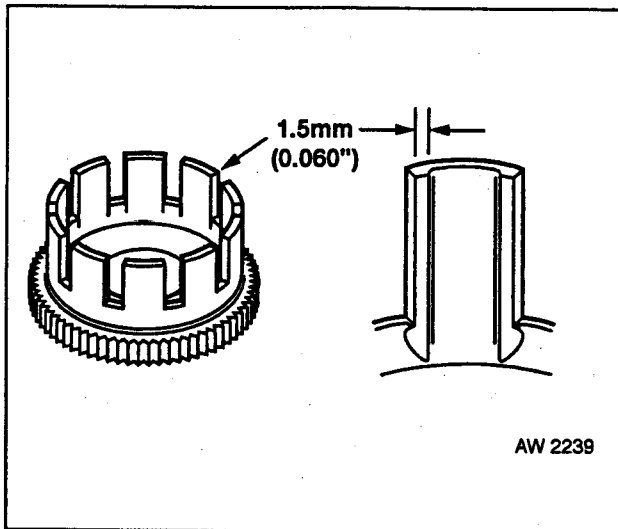

Fig 2.27 Clutch Drum Refurbishment
- a. With the clutch exposed the springs (13) and retaining plate (15) are released on unscrewing the six hexagon headed M5 screws (19) with their lockwashers.
- b. To remove the clutch shaft nut (12), lock the crankshaft at top dead centre, unbend the locking washer and lock the clutch using the tool (P/N 276 825) from the service tool kit.
- a. **Clutch Drum.** If the clutch drum splines of the clutch drum (4) are found to be severely worn, replacement may not be necessary. File the damaged spline surfaces equally (Fig 2.27 refers).